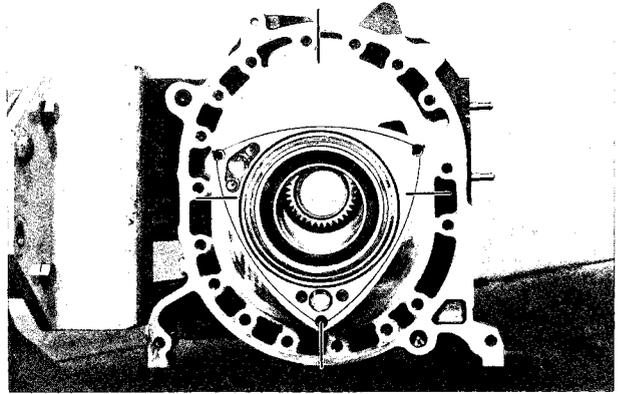

Fig. 1-58 Meshing internal gear
4. Mesh the internal gear and stationary gear so that one of the rotor apexes is set to any one of the four places shown in Fig. 1-58.